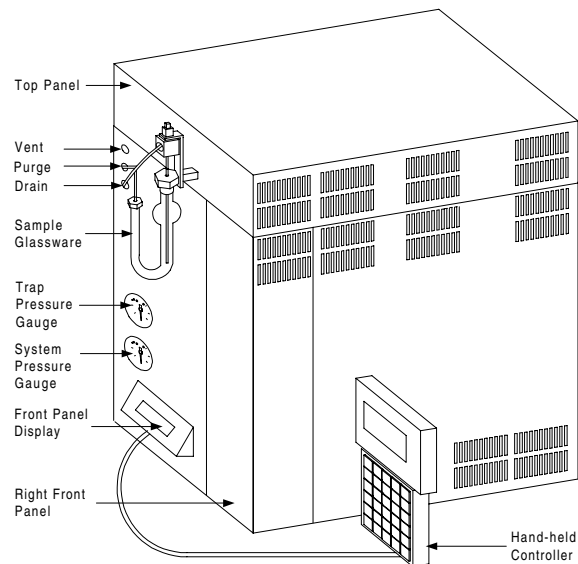

Figure 1-1 Tekmar 3100
The 3100 (Figure 1-1) is a purge and trap concentrator that allows automatic processing of liquid and soil samples for analysis by gas chromatography. The concentrator operates and interfaces with the gas chromatograph (GC) under microprocessor control.